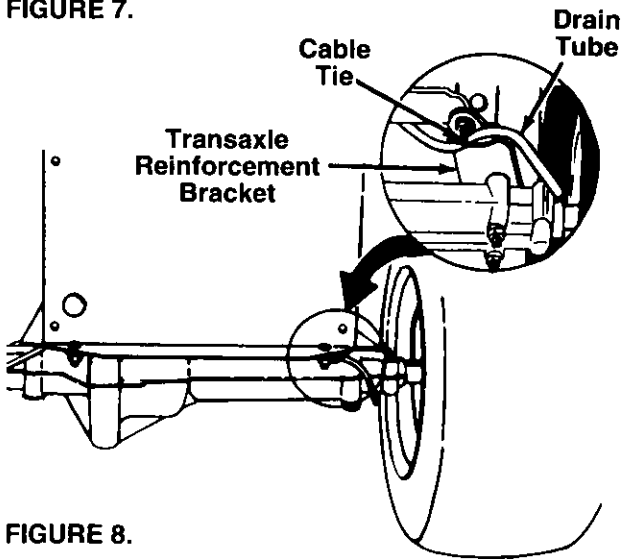

FIGURE 8.
- Insert the drain tube through the cable tie which is attached to the transaxle reinforcement bracket on the **right** side of the unit. See figure 8. Be certain drain tube is routed away from the wheel rim. Pull on end of cable tie to tighten (do not collapse drain tube). Trim excess end of cable tie.